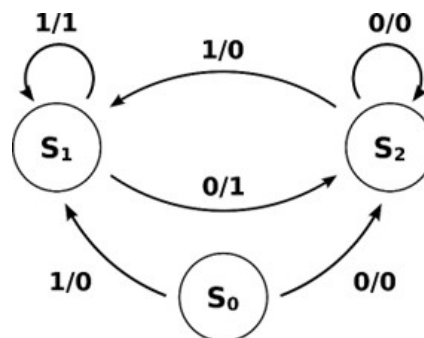

Figure 1: Mystery type of machine
- a. What type of state machine is shown in Figure 1 below? Select only one option. (3)